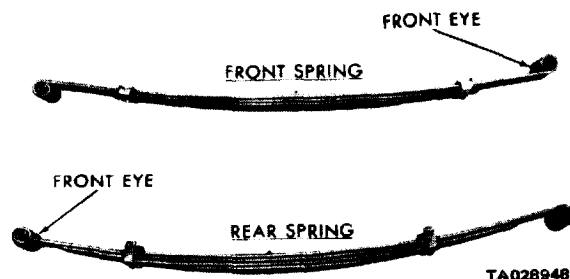

Figure 7-9. Leaf Spring Assemblies (4X4 Models).
a. *4X2 Models.* The 4X2 trucks use coil springs on the front and progressive-type leaf springs (figure 7-9) on the rear. Removal and installation instructions for the front coil springs are contained in section I of this chapter. The progressive-type rear springs used on the rear of these trucks operate in two stages. The first stage, comprised of the upper leaves, provides a low spring rate with light loads. With heavier loads, the second stage of the springs gradually comes into use. The lower leaves come into contact with the upper leaves, providing increased spring rate.